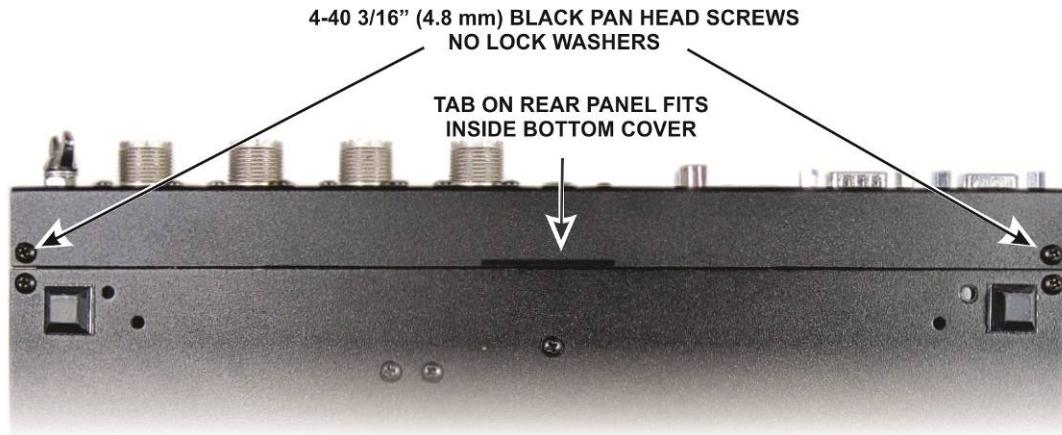

Figure 31. Installing Screws in Rear Panel Bottom Lip.
- Turn the assembly over and secure the bottom lip of the rear panel to the 2D fasteners as shown in Figure 31.